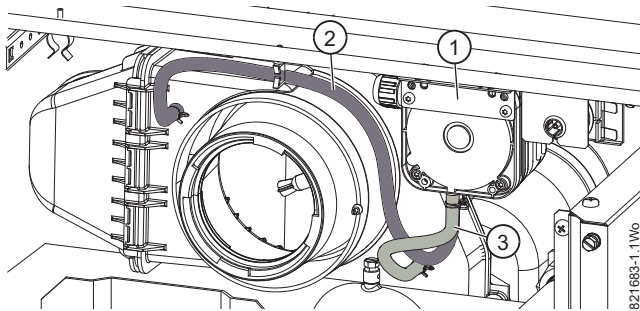

Fig. 104 Sensing tube connections
- ▶ Ensure that the sensing tubes are connected correctly, refer to figure 104